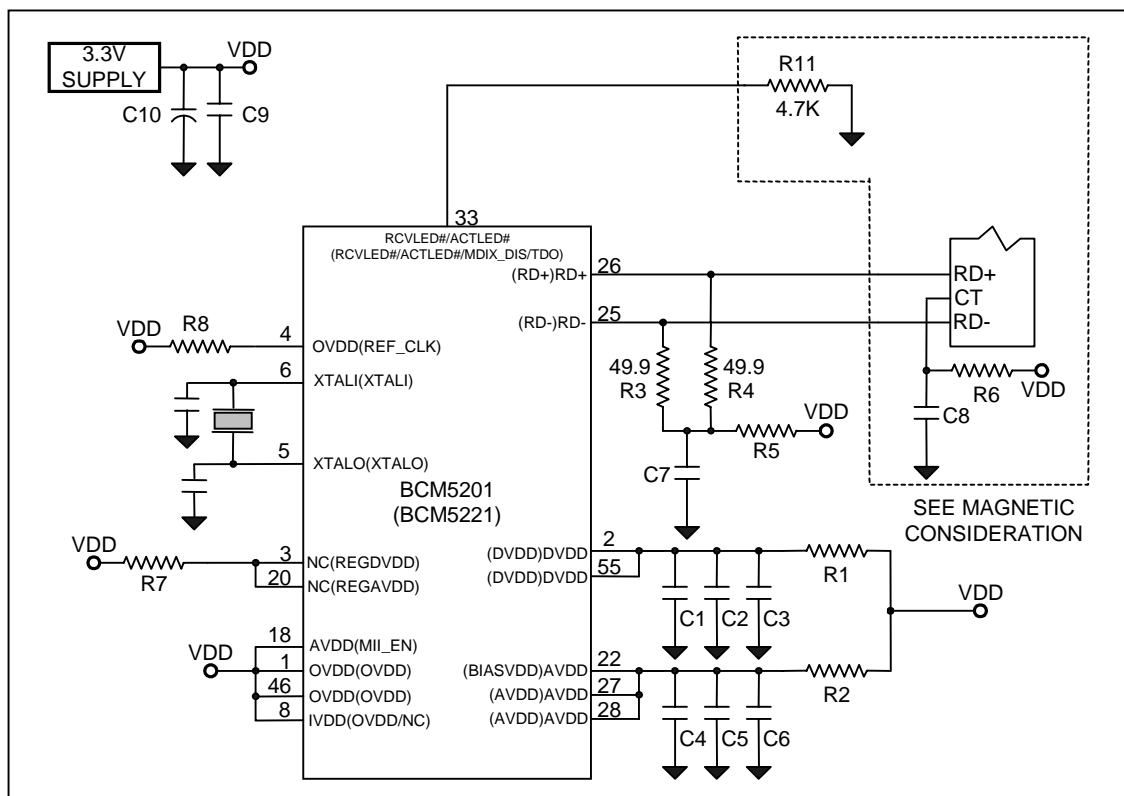
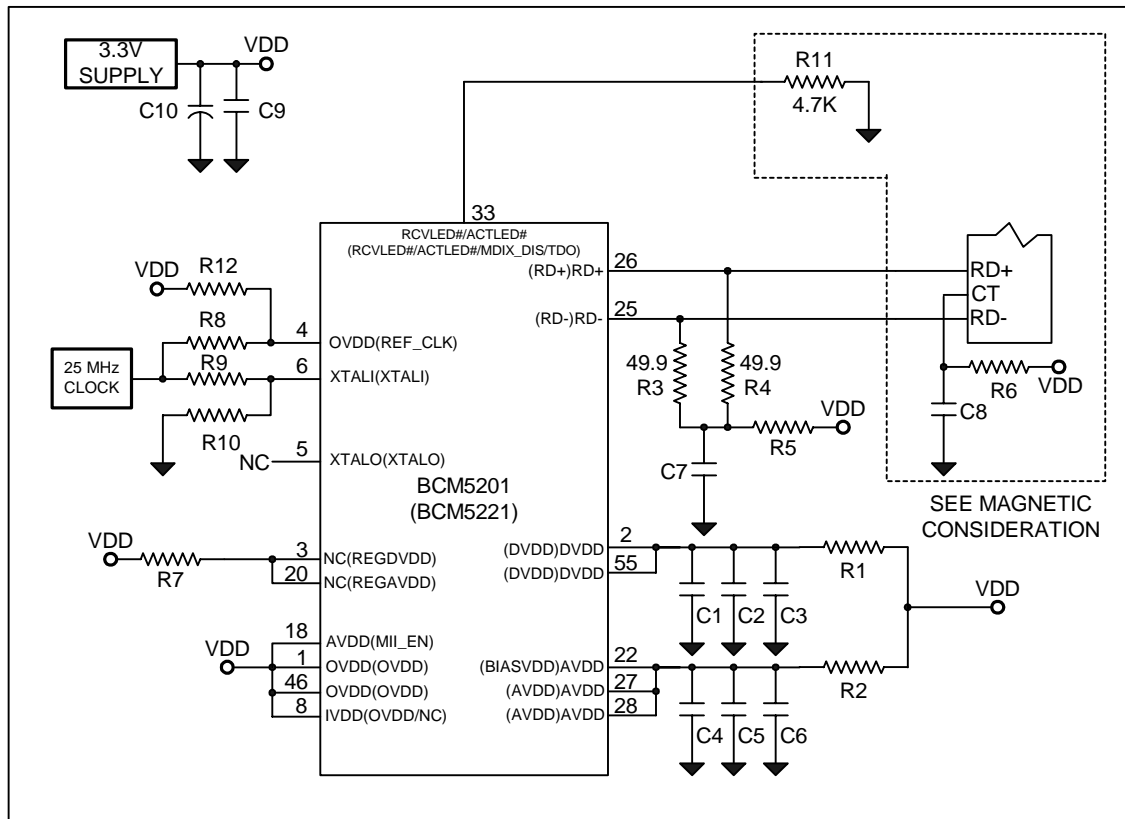

Figure 1: Option-1, BCM5201/5221 Compatible board design (crystal oscillator)
Figure 2: Option-1, BCM5201/5221 Compatible Board Design (External Clock)
Refer to Figure 1 for a connection schematic that would support Option-1 where the BCM5201 uses the internal crystal oscillator. Refer to Figure 2 for a connection schematic that would support Option-2 where the BCM5201 is supplied with an external clock.
The following schematic, in Figure 1, shows the schematic for Option-1. This option assumes that the BCM5201 is expected to use the internal crystal oscillator and the design is using the specified crystal to pin-6 and pin-5 of the BCM5201. The datasheet indicates that the crystal should be a 25 MHz parallel resonant crystal. Also connect a 27 pF capacitor from each pin to ground.
Figure 2 shows the schematic for Option-2. This option assumes that the BCM5201 is supplied with an external 25 MHz clock signal to XTALI (pin-6) of the BCM5201. Accuracy of this clock signal shall be ± 50 ppm, with a duty cycle between 35% and 65% inclusive. XTALO (pin-5) must be unconnected.
- 2 Receive pair of the magnetic, in the device side, should be terminated by a 49.9 ohms resistor tied to VDD from each side of the receive pair as shown in the figure 1 and 2 by resistors R3, R4, and R5.